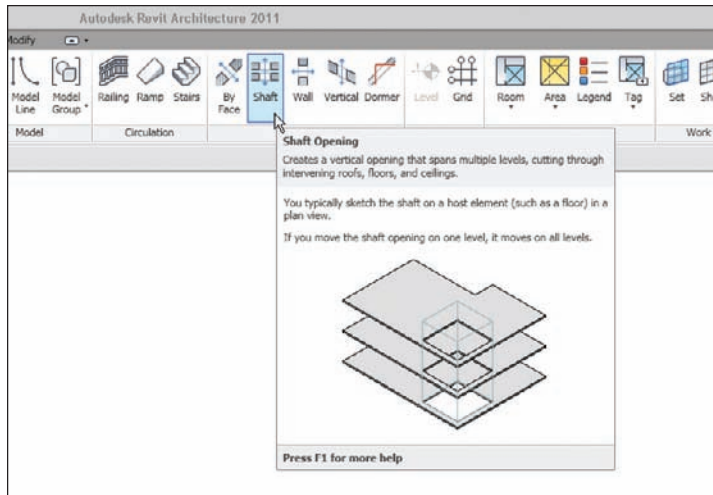

FIGURE 6.54 Selecting the Shaft Opening command from the Home tab
2. On the Home tab, click the Shaft Opening button in the Opening panel, as shown in Figure 6.54.